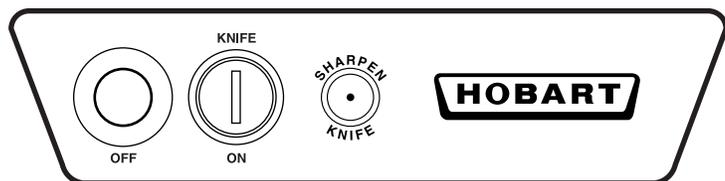
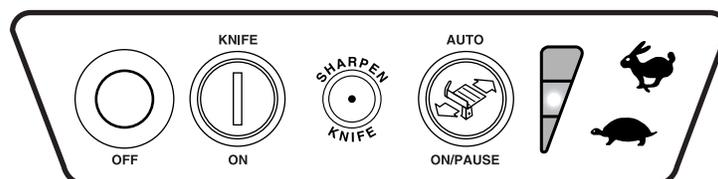

Fig. 9
Fig. 10
- Turn the slicer on by pressing the KNIFE ON button (Fig. 9).
- Turn the slicer on by pressing the KNIFE ON button (Fig. 10).
- Select one of the three speeds for the PRODUCT TRAY to move back and forth. Press the RABBIT symbol to increase speed; press the TURTLE symbol to decrease speed (Fig. 10). The speed indicator, located to the left of the symbols, shows which speed is selected. You can change the speed at any time.
- Press the AUTO ON / PAUSE button to start slicing (Fig. 10); the PRODUCT TRAY moves back and forth at the speed and at the stroke length you have selected.
- When done slicing, you can stop by pressing either the AUTO ON / PAUSE button or the OFF button (Fig. 10). Pressing AUTO ON / PAUSE returns the PRODUCT TRAY to the home position (all the way toward you).
The CleanCut™ KNIFE will provide long service in normal food retail or commercial kitchen use. **Sharpen only when necessary; prolonged or too frequent sharpening results in unnecessary KNIFE wear.** The SHARPEN KNIFE indicator light (Fig. 9 or Fig. 10) will come on after a factory-preset number of slicing strokes to indicate when sharpening is needed. This number has been set to represent a typical operation. Your operation may need more frequent sharpening.
Remove the TOP KNIFE COVER and the plastic RING GUARD COVER. Turn the LATCH KNOB counterclockwise and lift the TOP KNIFE COVER and plastic RING GUARD COVER off the slicer (Figs. 5, 6 & 7). Thoroughly wash the area around the KNIFE and both sides of the outer rim of the KNIFE. Food debris should not be allowed to transfer from the KNIFE to the SHARPENER. Plug in the machine power cord. When SHARPEN KNIFE indicator light is on, press the SHARPEN KNIFE button (Fig. 9 or Fig. 10) with your right hand while pulling the SHARPENER LEVER fully forward with your left hand (Fig. 29). The KNIFE comes on, sharpens for 8 seconds and shuts off. Release the SHARPENER LEVER. The stroke counter will then automatically reset. To sharpen before the SHARPEN KNIFE indicator light illuminates: Follow the directions above, but instead of turning on the motor with the SHARPEN KNIFE button, press the ON button for 8 seconds. Then, release the SHARPENER LEVER and press the OFF button. Unplug the SLICER power cord. Wipe the slicer with a clean damp cloth to remove any grinding particles. Reinstall the plastic RING GUARD COVER and the TOP KNIFE COVER.